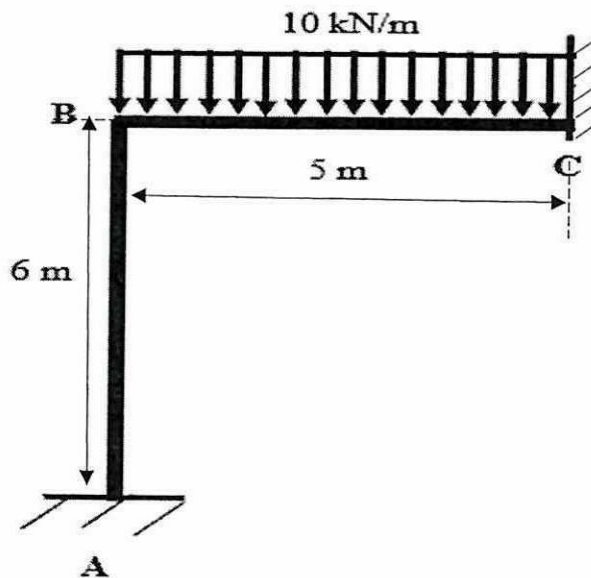

Figure Q2.2 Indeterminate Frame
- (a) Calculate Distribution Factor (DF) and Fixed End Moment (FEM) for each span of the beam. (7 marks)
- (c) Determine the internal moments in the indeterminate frame depicted in **Figure Q2.2** using the method of slope deflection. Assume that the supports at A and C are fixed, and EI is constant. (9 marks)